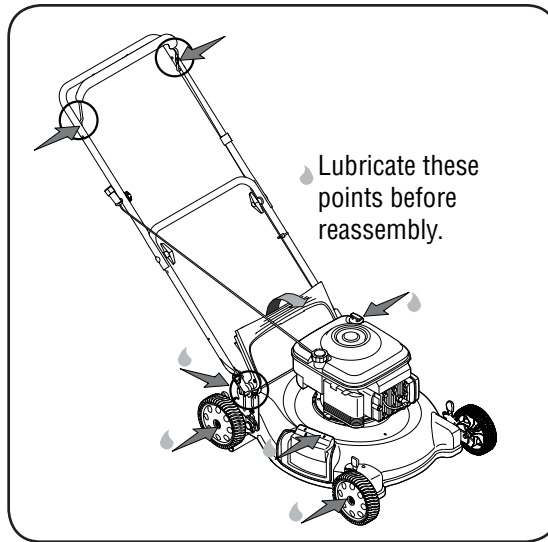

Figure 10
1. Lubricate the pivot points on the blade control handle at least once a season with light oil. The blade control must operate freely in both directions. See Figure 10.
3. Lubricate the torsion spring and pivot point on the rear door periodically with light oil to prevent rust. See Figure 10.